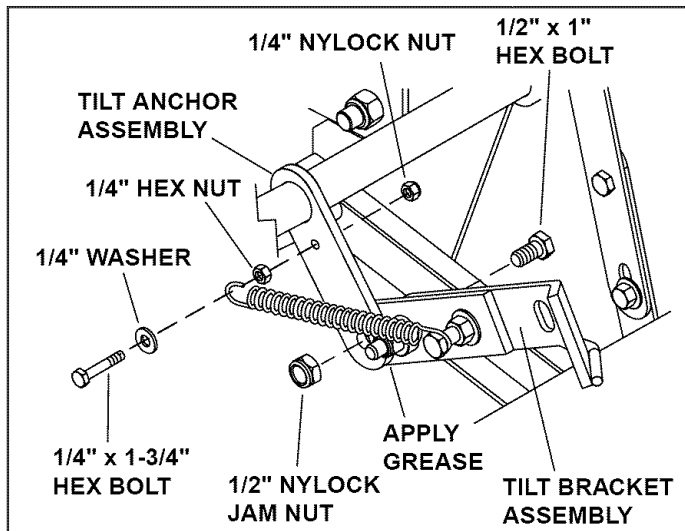

FIGURE 6
- **Loosen the bolts and nuts** on the tilt bracket assembly 1/4 turn or until the two plates will slide back and forth. You will retighten them later in step 23. See figure 6.
- Lightly apply grease to the end of the arm on the tilt anchor assembly and install the tilt bracket assembly to the arm using a 1/2" x 1" hex bolt and 1/2" nylock jam nut. **Tighten.** Loosen the nut 1/4 turn, or until the tilt bracket assembly pivots freely. See figure 6.
- Install a 1/4" x 1-3/4" hex bolt through a 1/4" washer and then through the end of the extension spring on the tilt bracket assembly. Next, install a 1/4" hex nut all the way onto the threads of the bolt. Finally install the end of the bolt into the hole in the arm of the tilt anchor assembly and secure using a 1/4" nylock nut. **Tighten.** See figure 6.